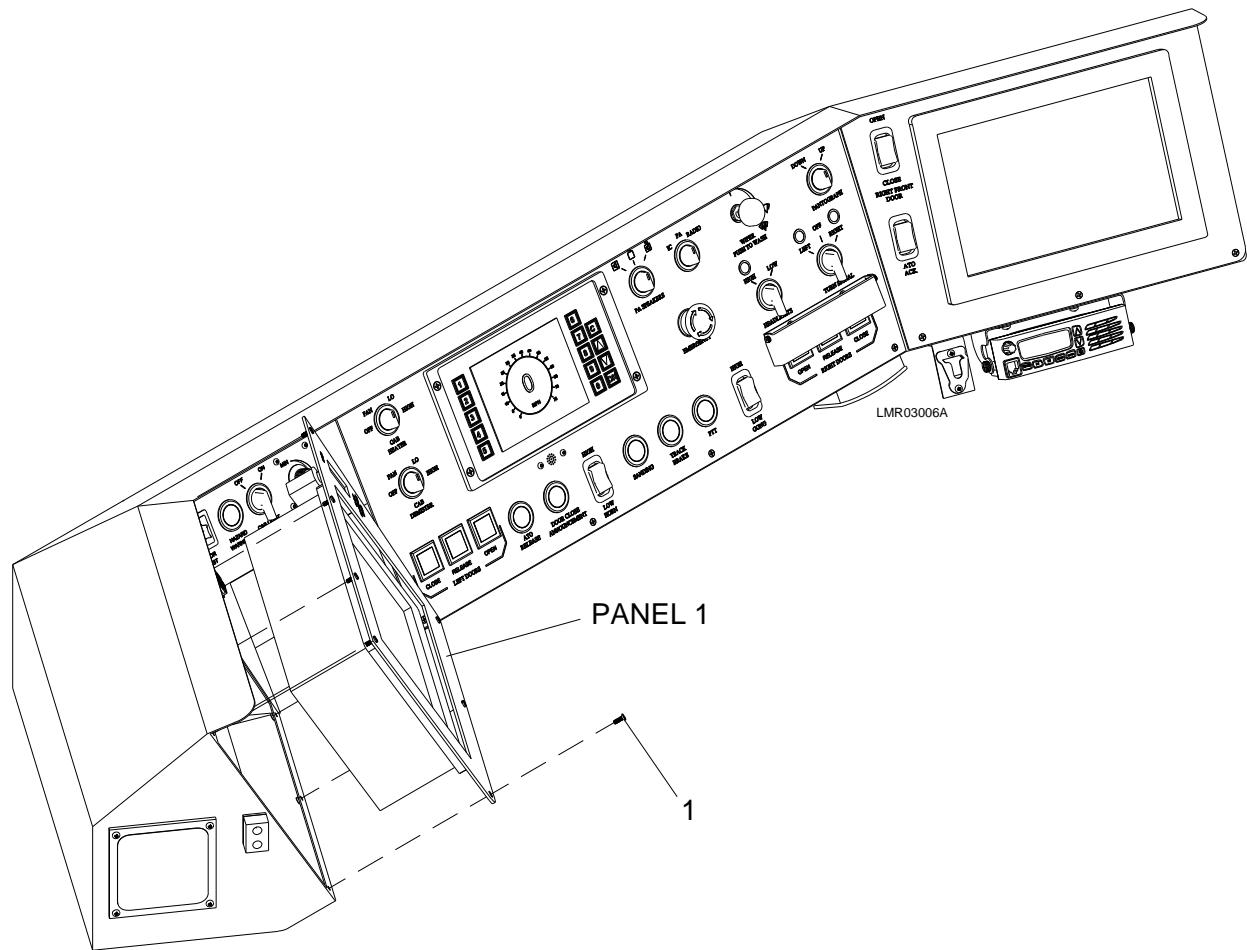

Figure 7-5: Console Panel 1
1. Remove the seven #8-32 flat head screws (1) from the panel. See Figure 7-5.